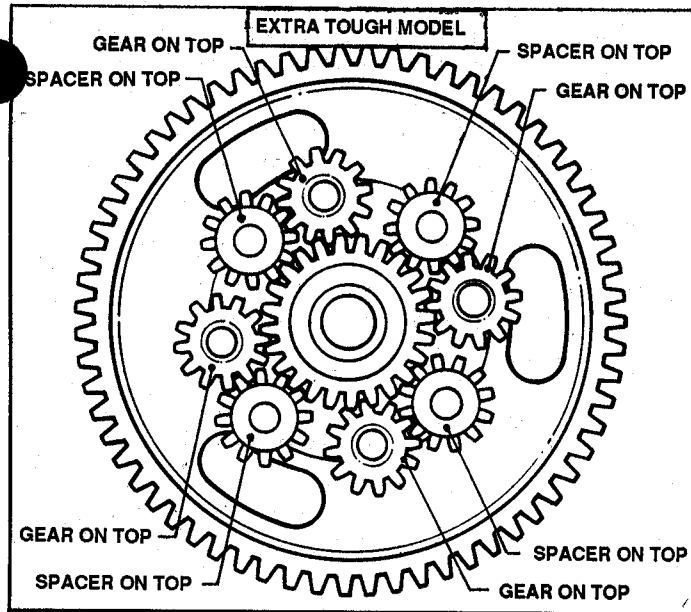
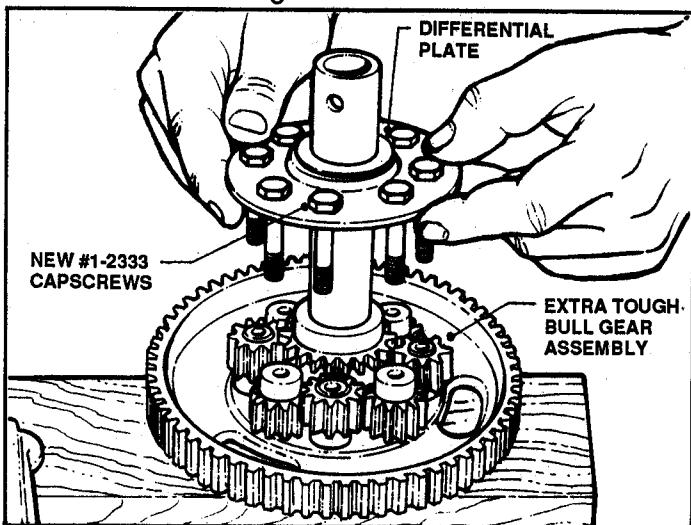

FIGURE 4.23
FIGURE 4.24
- (b) Install eight twelve-tooth pinion gears and spacers in staggered position - spacer below one gear and above on the next. See Figure 4.23.
- (c) Insert new **SNAPPER #12333** capscrews in differential plate and install over pinion plate. See Figure 4.24.
- (c) See NOTE after Figure 4.23 and CAUTION after Figure 4.24.
(d) Insert **NEW SNAPPER #12333** capscrews in differential plate and install over pinion plate. Refer to Figure 4.24.